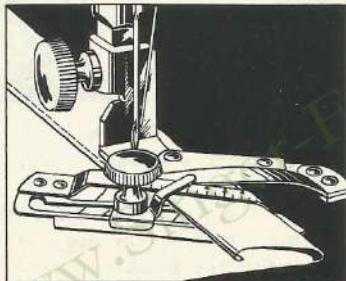

Fig. 52. Showing How Adjustable Hemmer
2. Place the cloth in the hemmer and draw it back and forth until the hem is formed, as shown in Fig. 52.